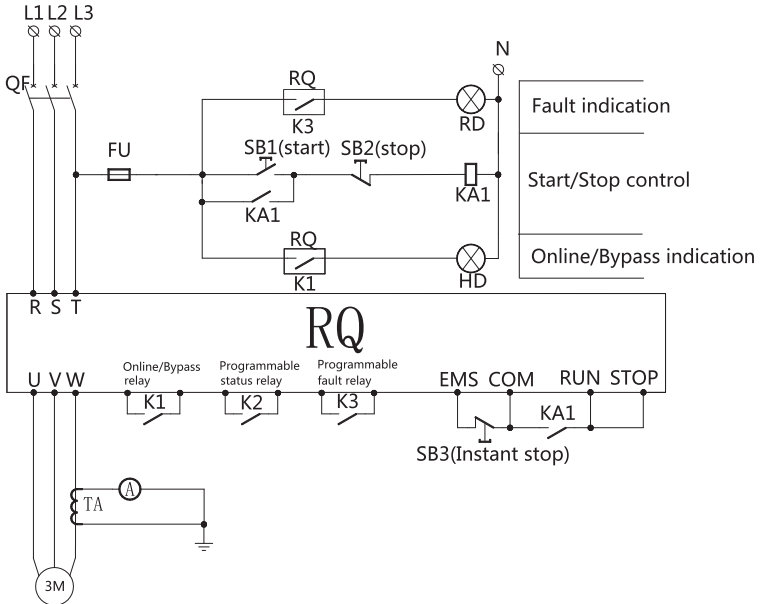

Figure B.1 One-for-one basic wiring diagram
B.1 One-for-one basic wiring diagram (see Figure B.1)